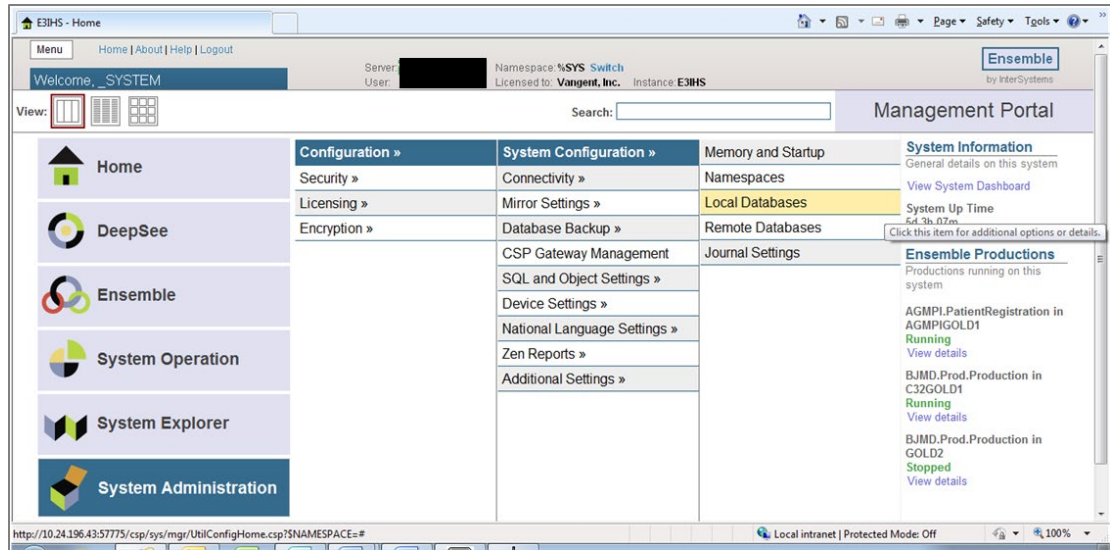

Figure 4-7: Configuration page with Local Databases link highlighted
- From the **System Administration Menu**, click **Configuration**, then click **System Configuration**, then click **Local Databases**, as shown in Figure 4-7.